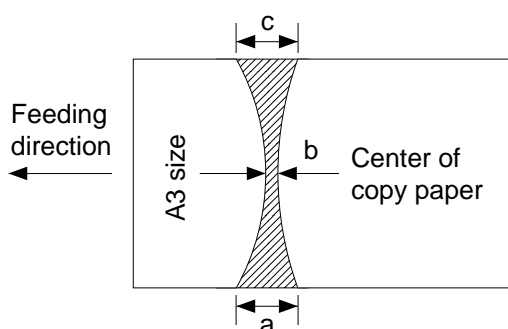

Figure 6-226
- The copy paper will be stopped when its leading edge is about 100 mm, and will automatically be discharged (See Figure 6-226).